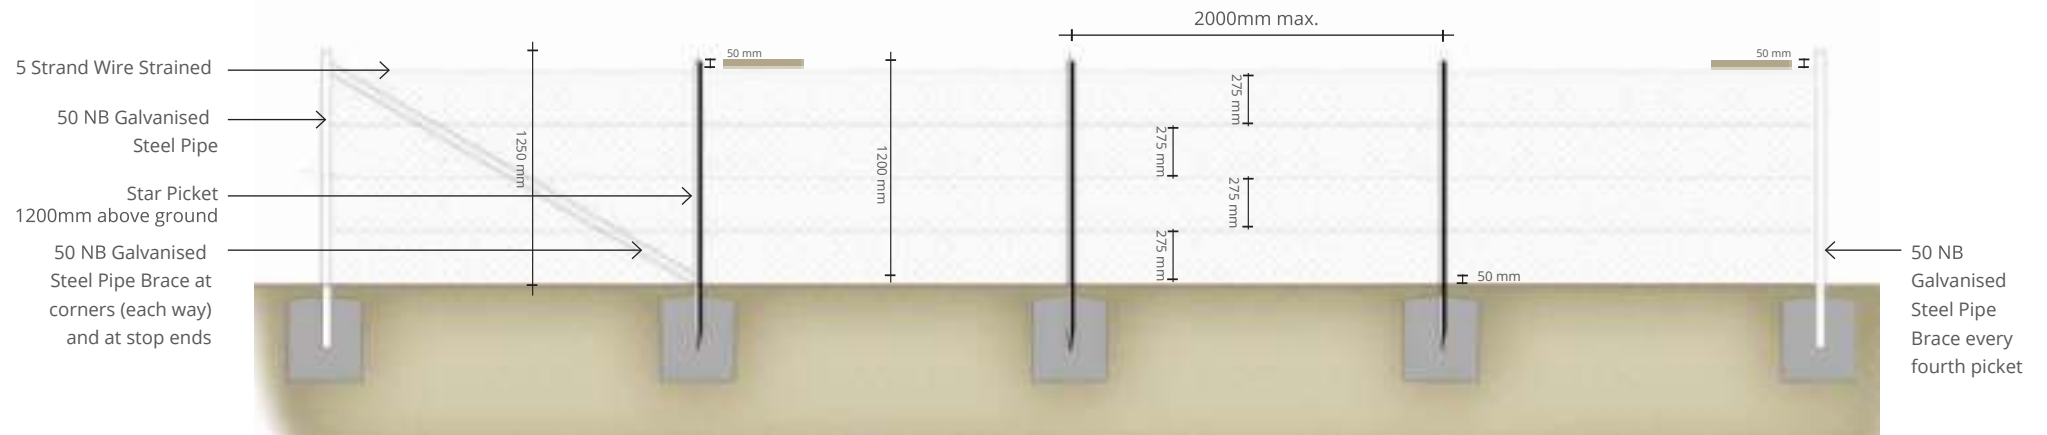

Figure 6: Typical Section- Star Picket Fence with 5 Strand Wire. Recommended
- Side and rear boundary fences are recommended to be 1200mm star picket with 5 strand plain wire or 5 strand plain wire with 8/115/15 hinge joint mesh, if dog proofing is required. Refer figure 6. Non-corner side and rear fencing are not a component of the design requirements except in an E2 zone